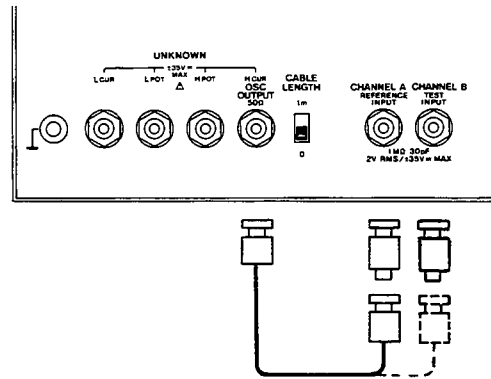

Figure 5-9. A11 Input Channel Isolation Check Setup.
- c. Connect the OSC OUT ( $H_{CUR}$ ) terminal to the 50Ω termination on CHANNEL A using the BNC-to-BNC cable as shown in Figure 5-9.
- e. Disconnect the cable from CHANNEL A and connect it to the termination on CHANNEL B as shown in Figure 5-9.